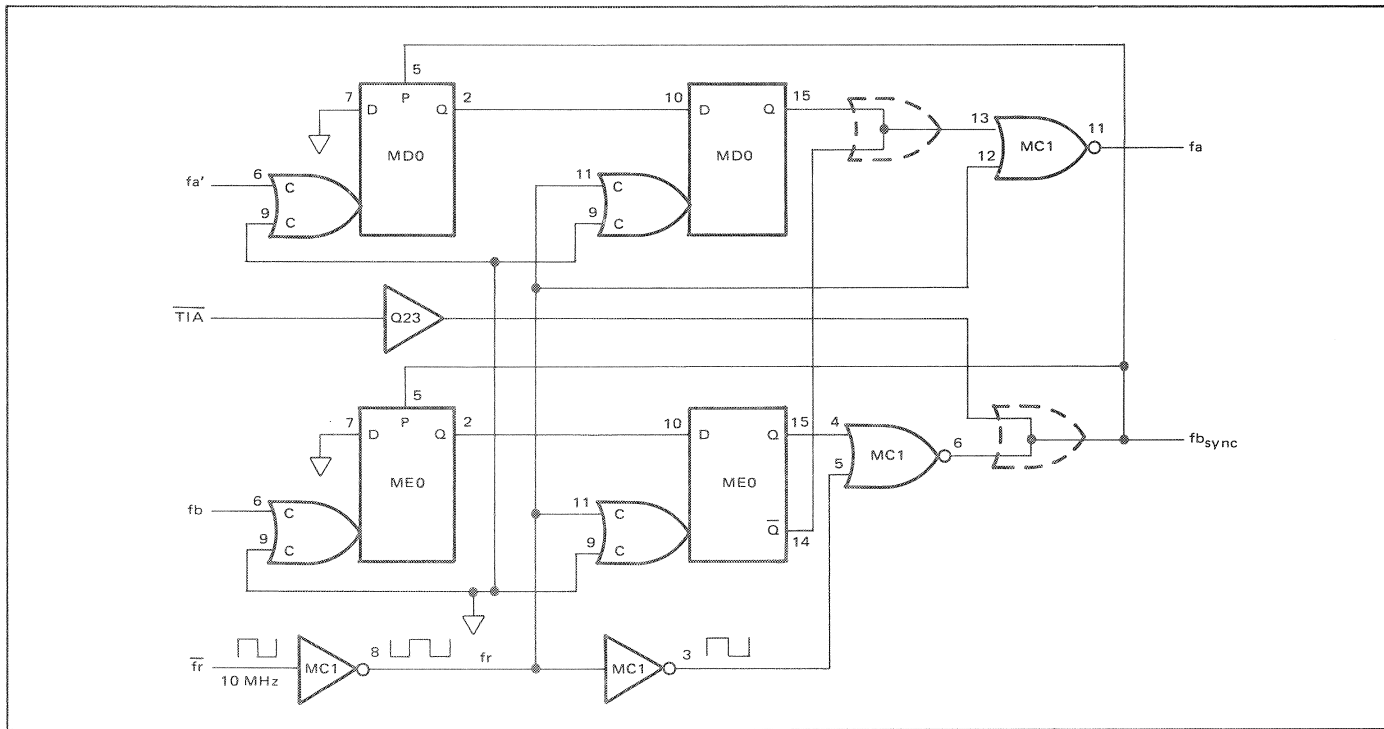
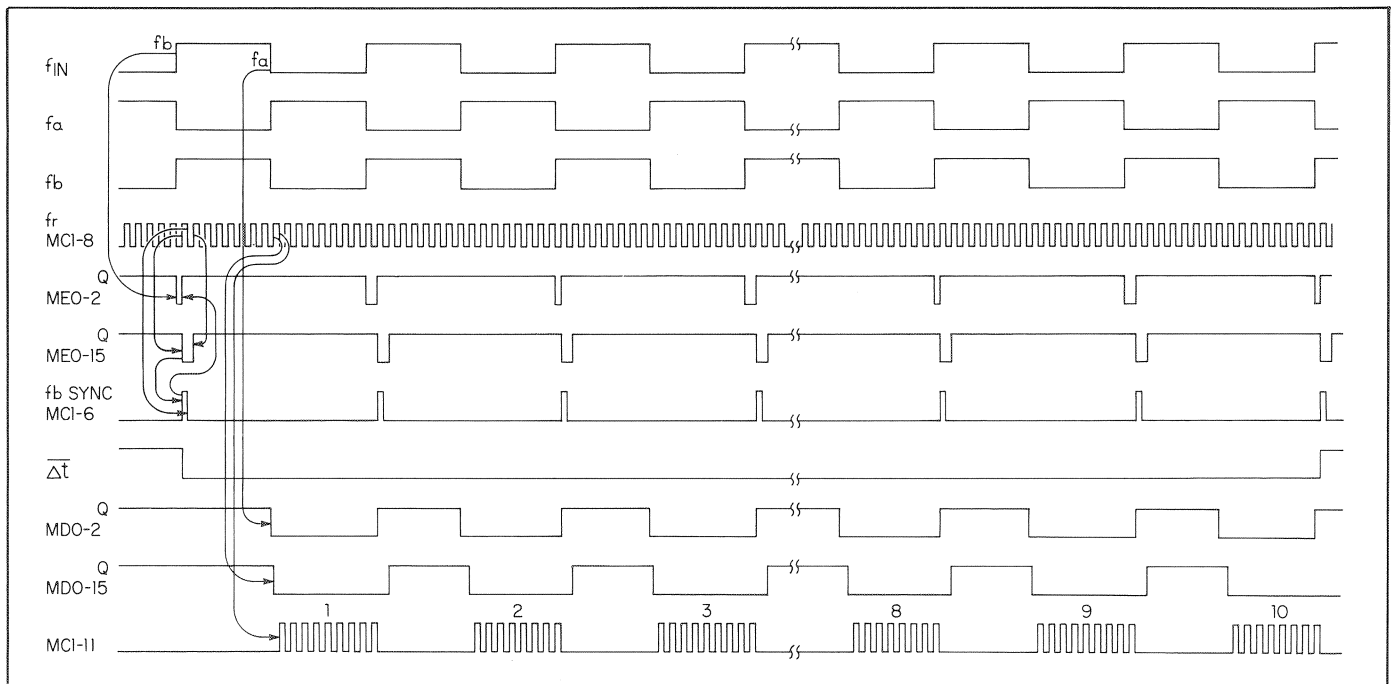

Figure 4.17 - Synchronizer Block Diagram
Figure 4.18 - Synchronizer Timing Diagram
4.74 The synchronizer circuit is utilized when the Time Interval Average mode is selected. The TIA mode averages a predetermined number of intervals. Two different types of gates are required: a synchronized gate to eliminate the  $\pm 1$  count error for each interval averaged and a main gate to select the predetermined number of intervals to be averaged. Figure 4.17 shows a block diagram of the synchronizer and the timing diagram is shown in figure 4.18.